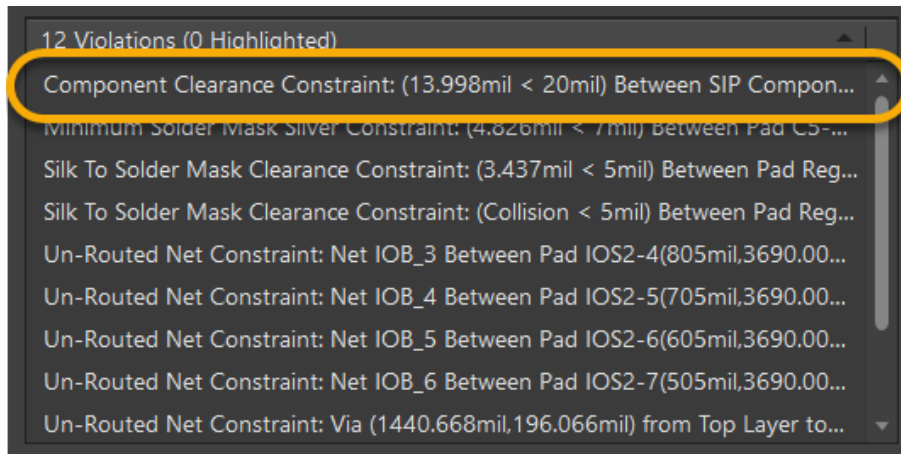

Figure 8. Component Clearance Violation
21. Click on the **Component Clearance Constraint** violation in the panel, as shown in Figure 8. The order of these violations may be different for you.